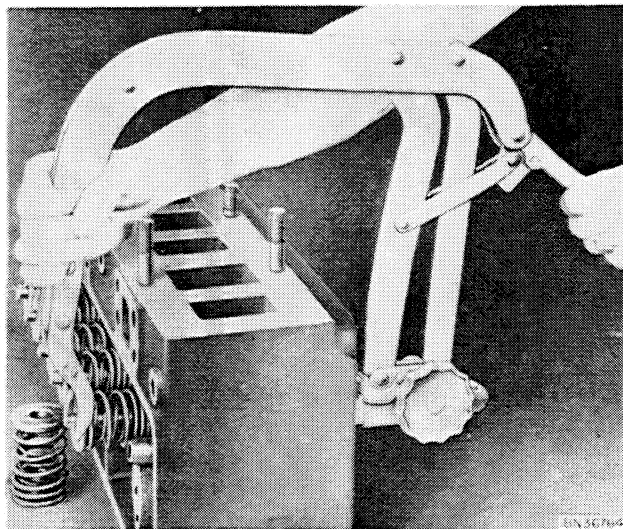

Figure 14 - Removing Valve Springs with "C" Type Valve Spring Compressor
2. Using a "C" type valve spring compressor, remove the valve spring retainer locks, retainers, and springs, Figure 14. Place all parts in a container of solvent.